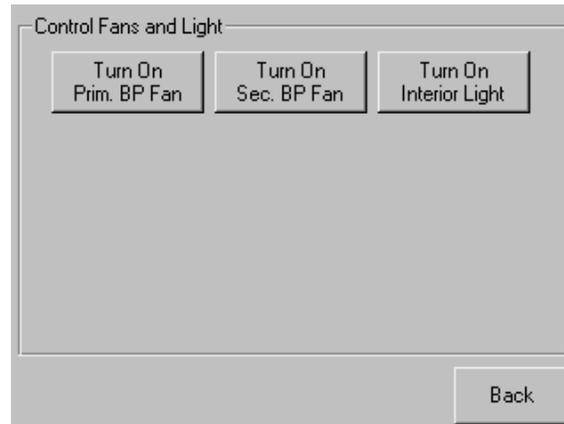

Figure 5-23: Control Fans and Light Screen (Maintenance)
Control Fans and Light Button. This option displays a menu screen (Figure 5-23) that provides buttons to turn ON and OFF the primary backplane (BP) fan, secondary BP fan, and interior light. When pressed, the button changes to show that the opposite action is now available for that feature.